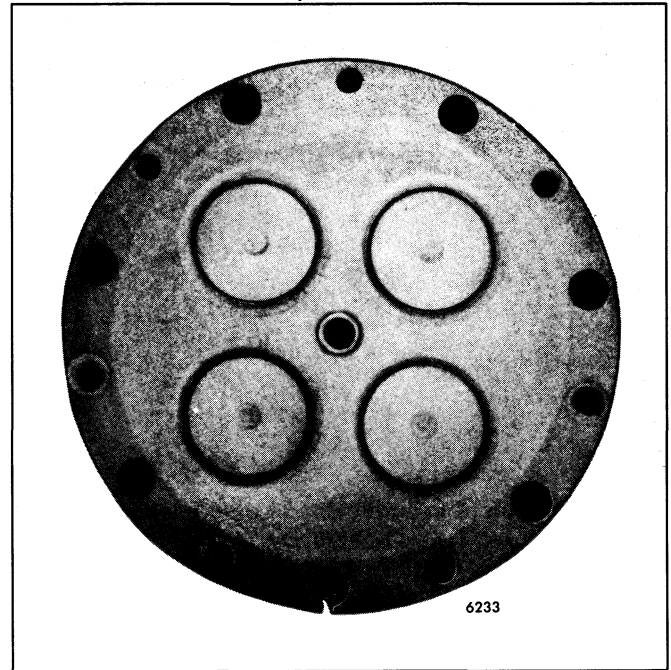

Fig. 7 - Sunburst Cracks (Head Reusable)
- b. Cylinder heads with valve hole sunburst checking can be reused without resurfacing cylinder heads. However, if any valve hole sunburst cracks intersect with each other, with an adjacent valve hole or with the injector tube hole, the cylinder head must be resurfaced before it can be reused. If resurfacing removes the cracks (Fig. 7), the cylinder head may be reused. If the cracks are still present after resurfacing, the cylinder head should be replaced.